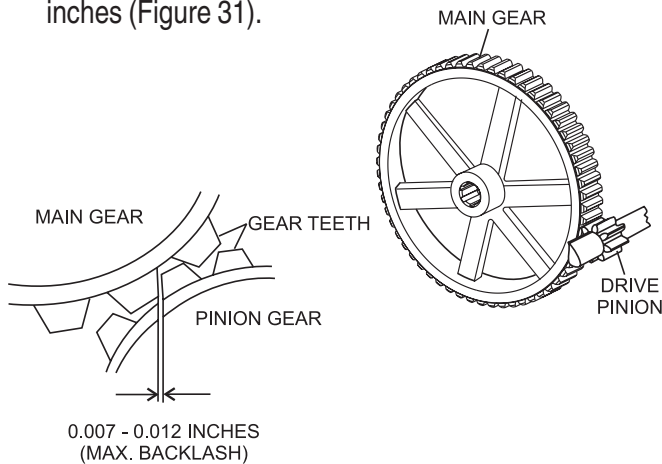

Figure 31. Drive Pinion and Main Gear (Backlash)
- Using your hand, slightly move (rock) the drive pulley back and forth to determine the amount of backlash. Insert feeler gauge between gears to determine backlash distance. Backlash should range between 0.007- 0.012 inches (Figure 31).